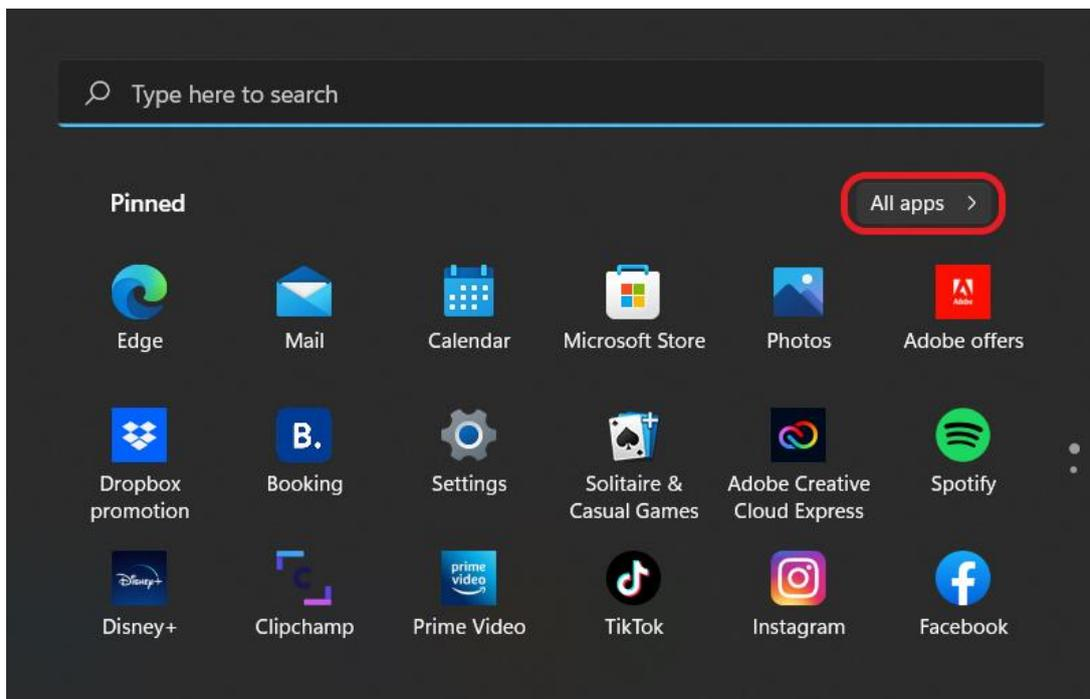

Figure 9: Windows® 11 – ‘Start Menu’ main window
- Next, click on the ‘All Apps’ button at the top right of the ‘Start Menu’ – highlighted in Figure 9 below – to access the alphabetical list of installed applications.